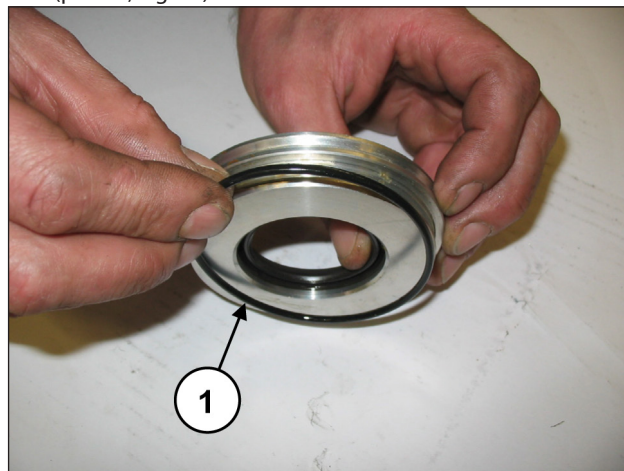
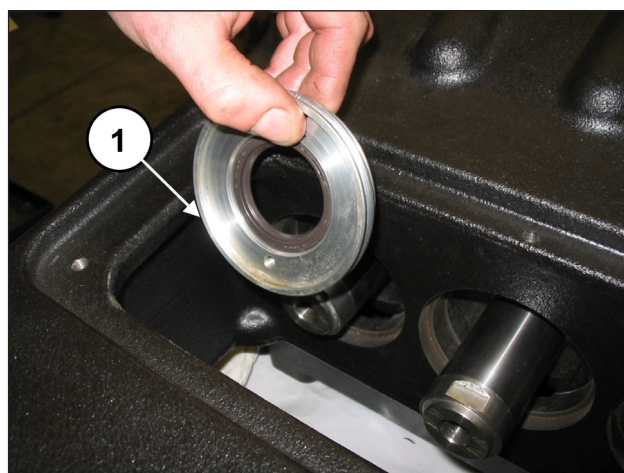

Fig. 95
Fig. 96
Position the O-ring (pos. ①, Fig. 95) in the seat of the oil seal cover and insert the assembly mounted in the casing into the seat (pos. ①, Fig. 96).